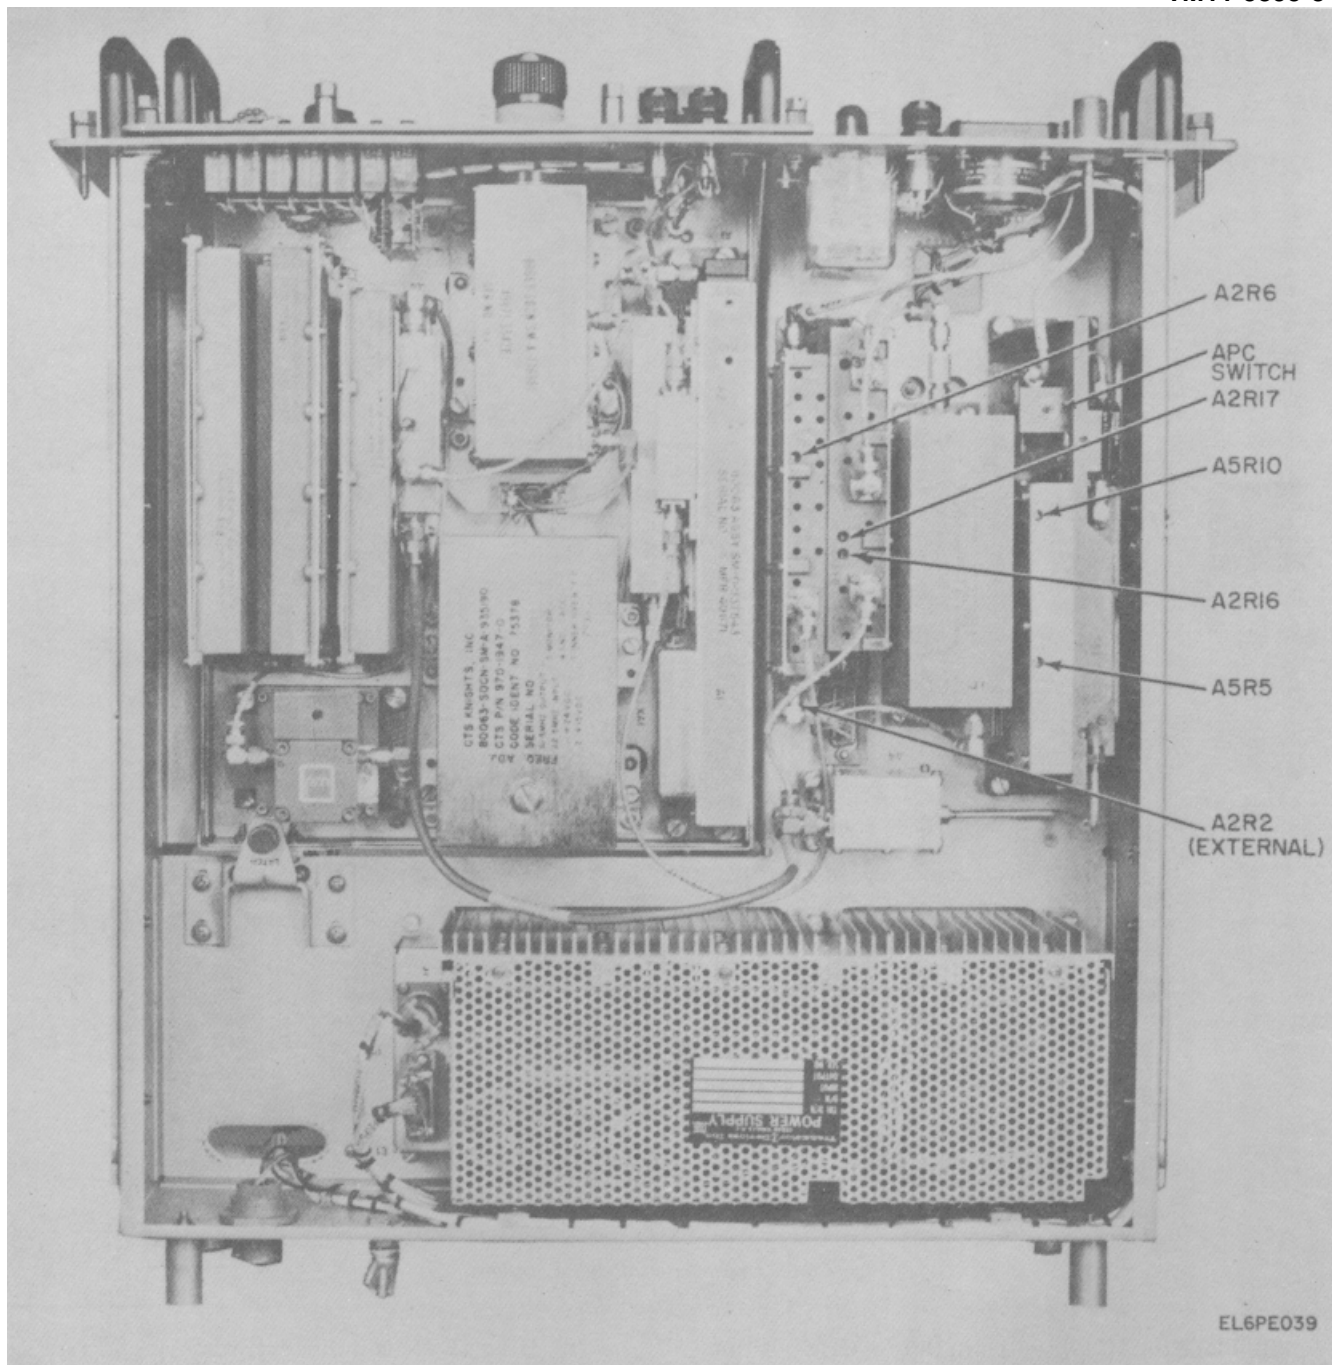
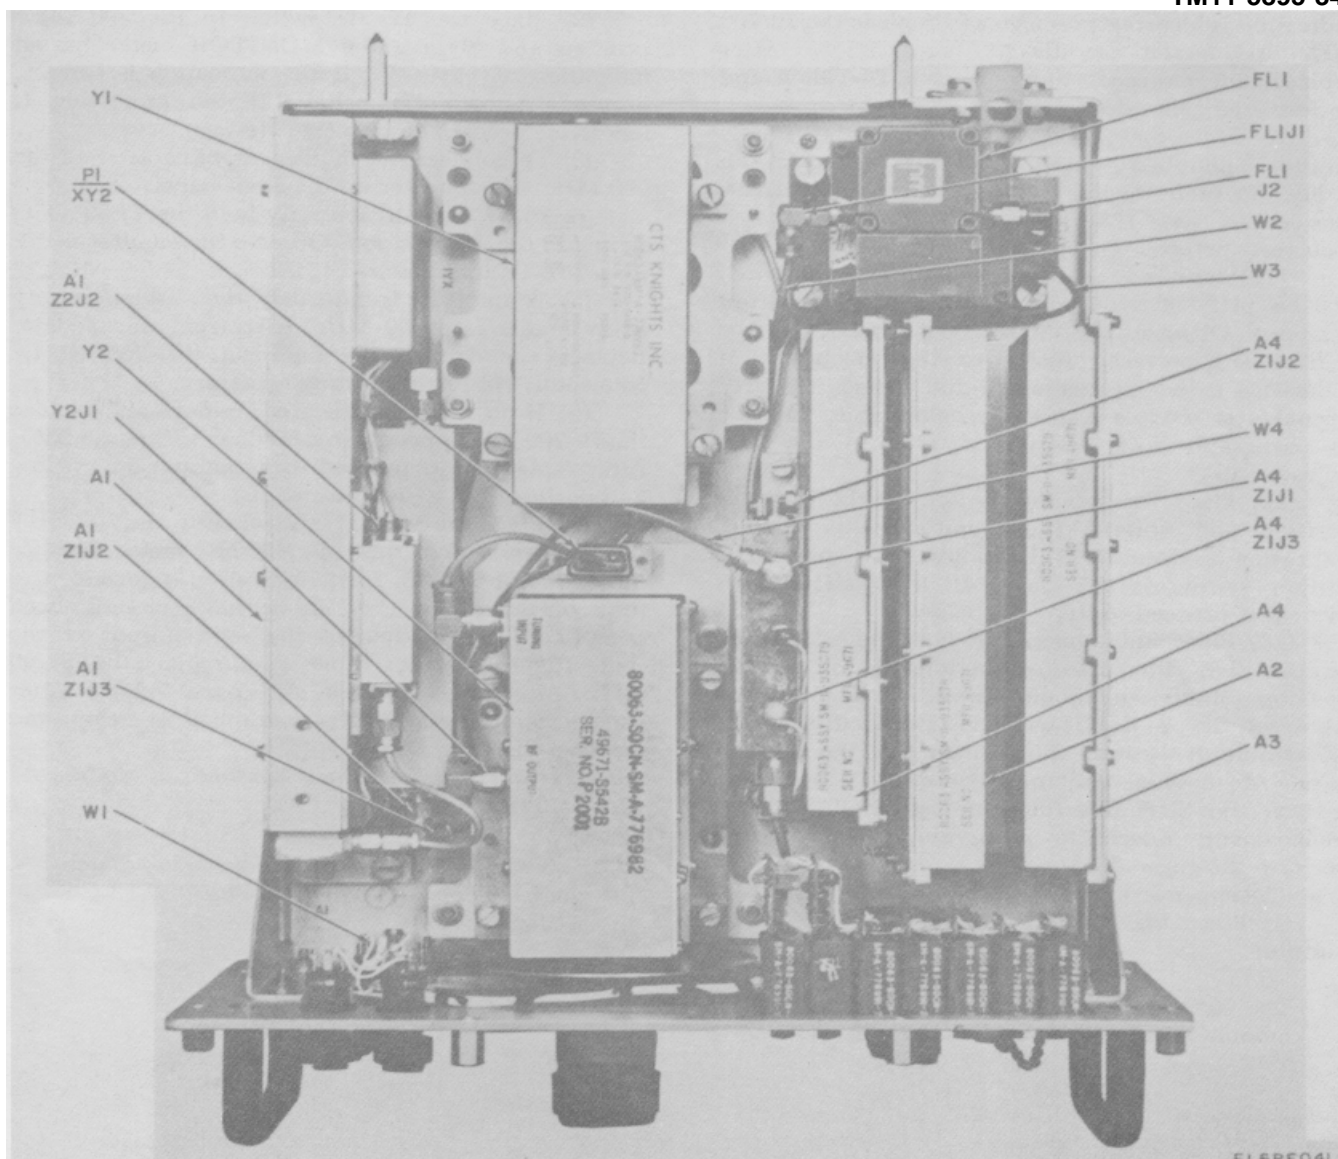

Figure 5-13. Upconverter Adjustment Controls.
Figure 5-15. Frequency Synthesizer Module, Submodule Locations.
b. See figure 3-6 for location of controls and indicators. See figures 5-13, 5-14, and 5-16 for location of the upconverter adjustments, modules, and other components. See figure 5-15 for location of submodules within the frequency synthesizer module. Refer to paragraph 5-25 for replacement of upconverter modules, to paragraph 5-26 for replacement of synthesizer modules, and to paragraph 5-27 for the replacement of the upconverter.
The APC (automatic power control) switch on the SHF filter/detector module A5 should be in the ON position (fig. 5-13).
(2) Place the IF IN switch in the 700 MHz position and observe the MONITOR meter for an indication of 15 to 35. If the indication is correct, proceed to step (7) below. If the indication is incorrect, proceed to step (3) below.
(3) Disconnect the modem drive cable from the 700 MHz IF connector on the front panel.
(4) Place and momentarily hold the TEST OSC switch in the ON position. Observe the monitor meter for an IF IN indication.
(5) If an IF IN is indicated, the problem is very likely inadequate 700 MHz drive from the modem. Replace the drive cable back on the 700 IF IN connector. No further testing necessary.
(6) If no IF IN is indicated, remove and replace the 70/700 MHz upconverter module A2 (para 5-25b). After replacement, proceed to paragraph 5-24 below and perform the gain adjustments.
(7) Place the MONITOR switch to the 700 OUT position. Observe the MONITOR meter for an indication of 5 to 45. If the indication is correct, and tests b(1) through (13) above have already been completed, no further testing is required. If the indication is incorrect, remove and replace the 70/700 MHz upconverter module A2 (para 5-25b). After replacement, proceed to paragraph 5-24 below and perform the gain adjustments.
d. Testing the Frequency Synthesizer Module A1 (fig. 5-15).
(6) Connect one end of the step attenuator to the loose end of the c/kt test cable. Adjust the attenuator for 5 dB of attenuation.
(7) Connect the 700 MHz modem drive cable to the other end of step attenuator.
(8) Place the upconverter MONITOR switch to the IPA OUT position.
(9) See figure 5-13. Locate the APC switch on module A5 and gain control R17 on module A2.
(10) Loosen the front panel captive screw and slowly extend the upconverter from the rack just enough to gain access to the switch and control. Check that the modem and amplifier/mixer cables are not under undue strain.
(11) On the associated transmit modem, check that the XMT function switch is not in the OFF position and that the ac power is on.
(12) On the SHF filter/detector module A5, place the APC switch to the OFF position.
(13) On the 70/700 MHz upconverter module A2, adjust gain control R17 for an indication of 25 on the monitor meter.
(14) On the front panel, remove the c/kt test cable and step attenuator and connect the modem drive cable directly to the 700 MHz IF IN connector.
(15) On module A5, place the APC switch to the ON position.
(16) On module A5, adjust the IPA Out APC control R10 (fig. 5-13) for an indication of 25 on the monitor meter. Place the MONITOR switch to the 700 MHz position and adjust R16 on the A2 module for a reading of 25. Return the MONITOR switch to the IPA OUT position.
(17) Connect the test cable and attenuator to the 70 MHz IF IN connector. Turn the IF IN switch to the 70 MHz position.
(18) Connect the 70 MHz modem drive cable to the step attenuator (set at 5 dB).
(19) On the SHF filter/detector module A5, place the APC switch to the OFF position.
(20) On the 70/700 MHz upconverter module A2, adjust gain control R6 for an indication of 25 on the MONITOR meter.
(21) On the SHF filter/detector module A5, adjust fault control R5 to just turn on the upconverter FAULT lamp (fig. 5-13). If the FAULT lamp is already lit, adjust R5 until the lamp goes out and then readjust R5 to just turn on the FAULT lamp.
(22) Remove the test cable and step attenuator from the 70 MHz IF IN and reinsert the cable and
(3) On the SHF filter/detector module A5, place and hold the APC switch to the test position.
(4) On the 70/700 MHz upconverter module A2, adjust the gain control R6 for an indication of 25 on the MONITOR meter.
(5) On the SHF filter/detector module A5, adjust fault control R5 to just turn on the upconverter FAULT lamp (fig. 5-13). If the FAULT lamp is already lit, adjust R5 until the lamp goes out, and then readjust R5 to just turn on the FAULT lamp.
(6) Release the APC switch from the test position on the SHF filter/detector module A5, and place the APC switch in the OFF position.